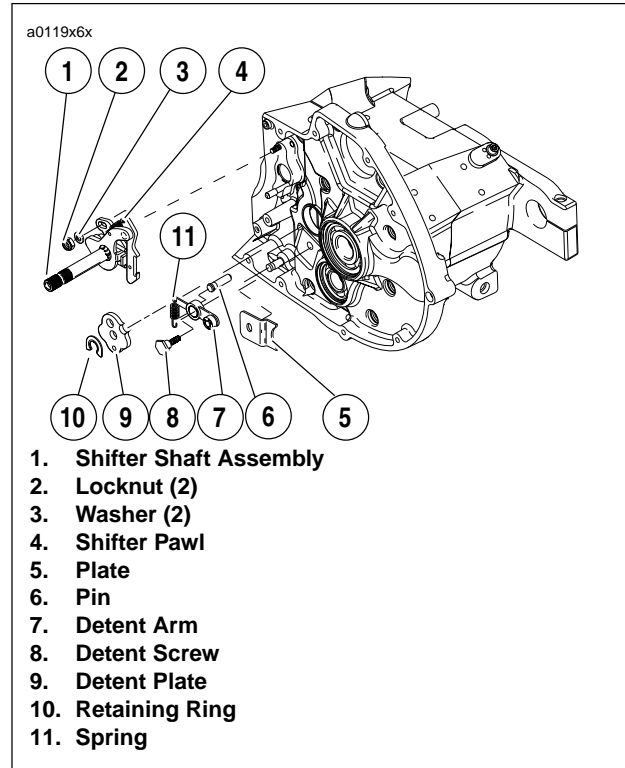

Figure 6-33. Shifter Shaft Assembly
9. See Figure 6-33. Detach spring (11) from groove in post.
10. Remove retaining ring (10) and detent plate (9). Discard retaining ring (10). You will need to use a **new** retaining ring for installation.
12. Remove two locknuts (2) and washers (3) which attach shifter shaft assembly (1) to studs at transmission case. Remove shifter shaft assembly (1).
13. Remove detent screw (8), detent arm (7) and spring (11).